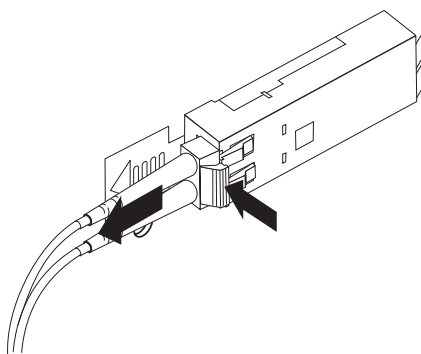

Figure 24. Removing the LC-LC fibre-channel cable
2. Carefully pull on the connector to remove the cable from the SFP module, as shown in Figure 24 on page 40.